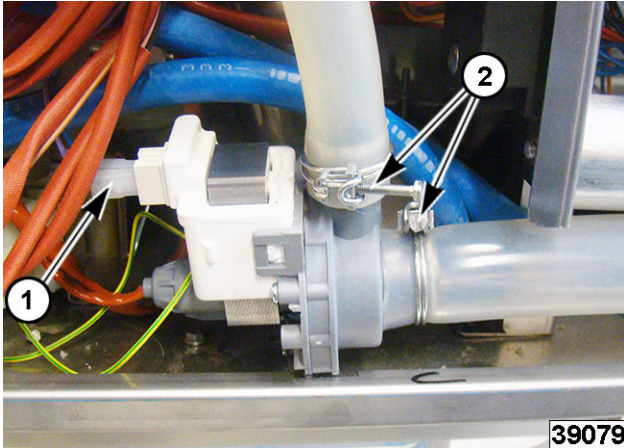

Fig. 58
2. Note and disconnect wiring (1, Fig. 58).
3. Disconnect tubing (2, Fig. 58).